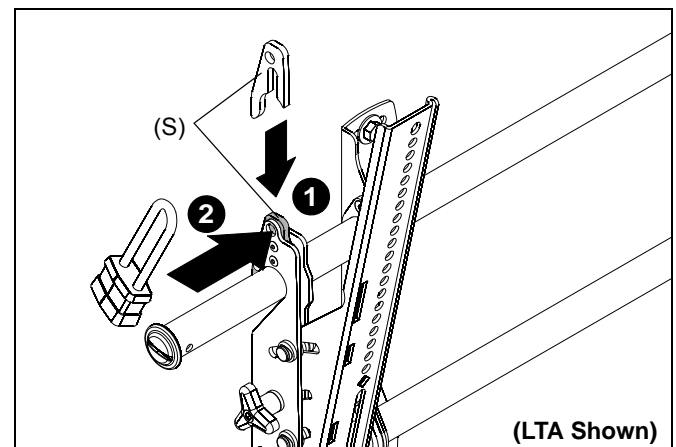

Figure 9
1. Add optional security bracket (S or T) to the mount. (See Figure 9)